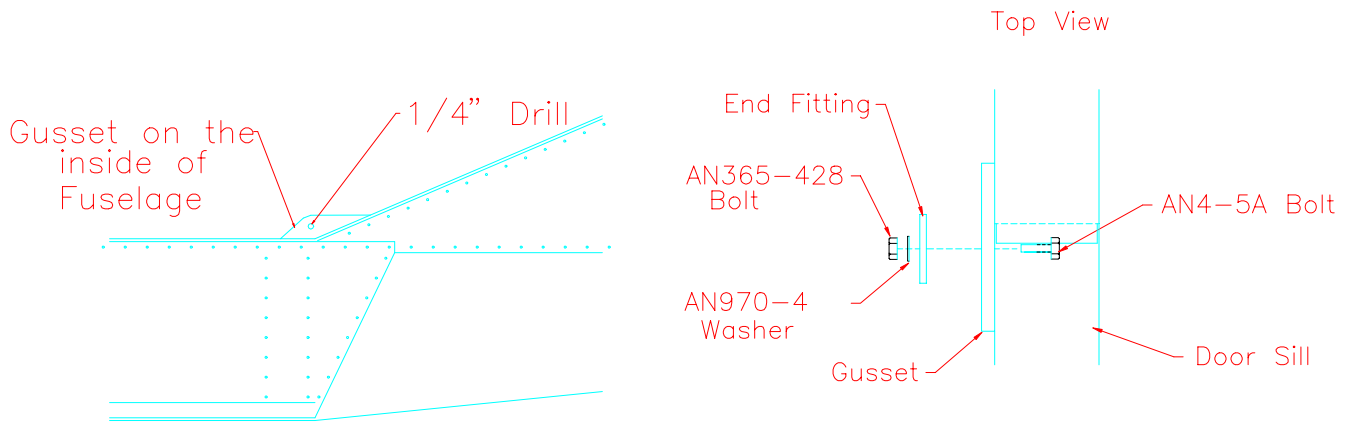

Figure 22.4.2
- 3) Locate the end fitting for segment #1 on the outside of the gusset at the lower rear of the pilots door. Attach using a AN4-5A bolt. See Figure 22.4.2.